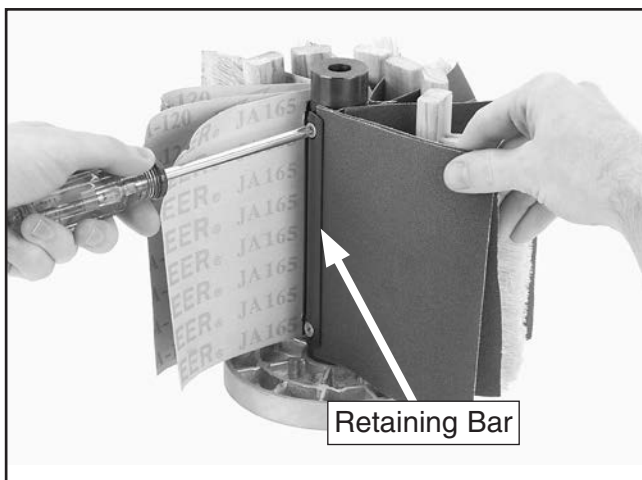

Figure 21. Replacing flap sandpaper.
5. Cut two new pieces of sandpaper from the selected grit, then slip them under the retaining bar so that the abrasive side faces away from the center of the flap sander, as shown in **Figure 21**.